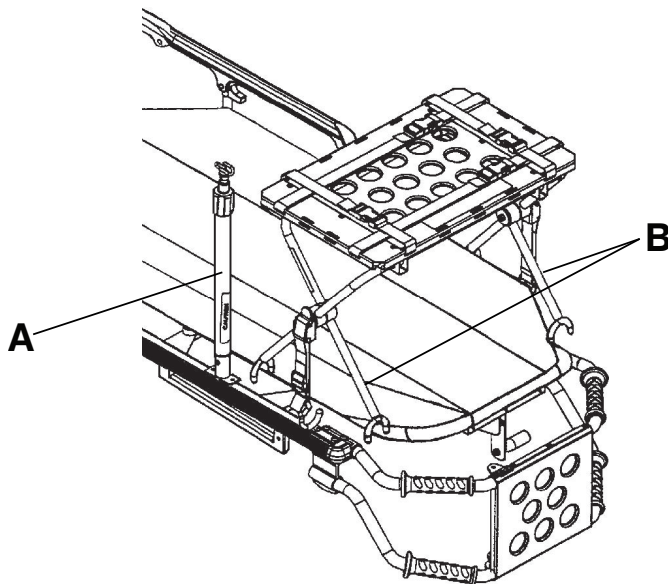

Figure 31 – Raise IV pole and position defibrillator tray (Model 6506 shown)
3. If the product is equipped with an IV pole, raise the IV pole (A) to the up position (Figure 31).
5. Position the inside legs (B) of the defibrillator platform toward the head end of the product (Figure 31).